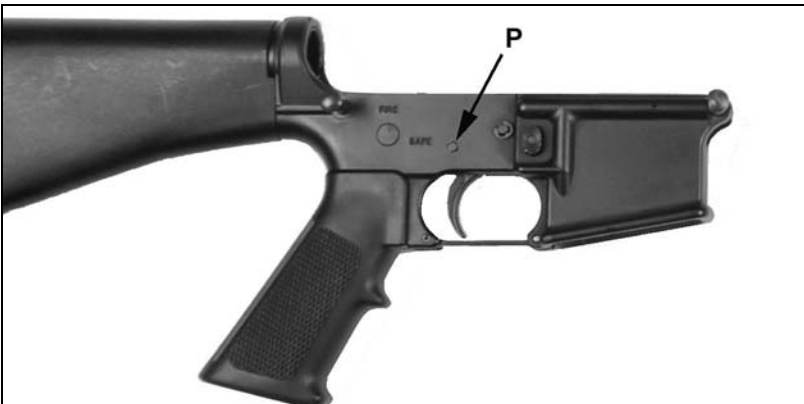

Figure 5
6. To remove disconnecter (Q), push trigger pin (P) at least half way out. This will allow the disconnecter (Q) and spring (R) to be removed from the trigger. After both parts are removed, push trigger pin back through the trigger to its original position. See figure 5 and 6